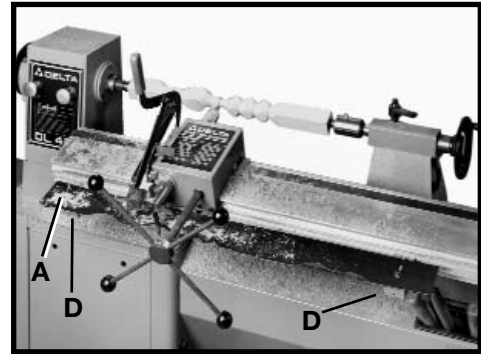

Fig. 85
The center line of the template (A) Fig. 85, which is determined by the diameter of the finished piece, should be set directly over the center pins of the pattern support brackets (D) and fastened in position with four screws supplied. **NOTE:** After a test cut, minor adjustments can easily be made to the placement of the template (A) on the pattern holding brackets (D).